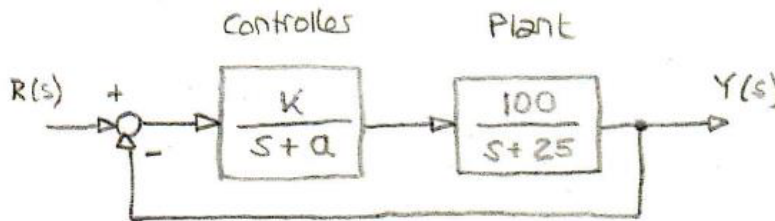

Figure 1: Setup for Problem No. A
- A. Consider a unit feedback system as shown in Figure 1. Specify the gain and pole location of the compensator so that the overall closed-loop response to a unit step input has an overshoot of no more than 25%, and a 1% settling time of no more than 0.1 seconds. Compute first by hand and show all steps, then use Matlab™ to verify your results.